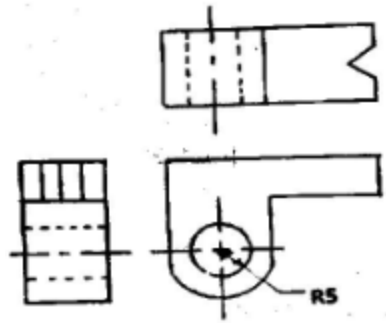

Figure 1
3. (a) Figure 1 shows the Orthographic Projection of a block made of metal.
- (i) Copy the views shown in figure 1